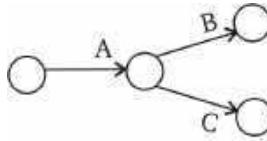

Fig. 9.20
- (ii) The activities B and C can be done simultaneously and both are preceded by activity A. Therefore, they may be shown as in fig. 9.20.